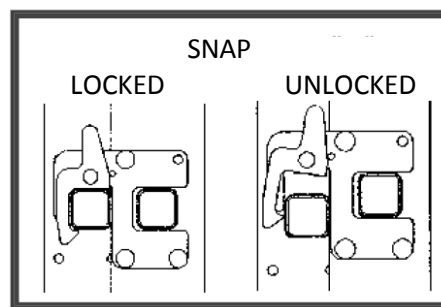

Fig. 6
- Release the locked snap (Fig. 6). Extend the narrow part from the middle part to the required length. Slip the hook of the narrow part onto the rung of the middle part, and lock the snap (Fig. 6).
- Release the locked snap (Obr. 6). Extend the middle part from the bottom part to the required length. Slip the hook of the middle part onto the rung of the bottom part, and lock the snap (Fig. 6).
- Extend the narrow part to the required length; secure the narrow part's snap (Fig. 6).
- b) Release the snap of the narrow part (Fig. 6), pull the part out from the set and put it aside.